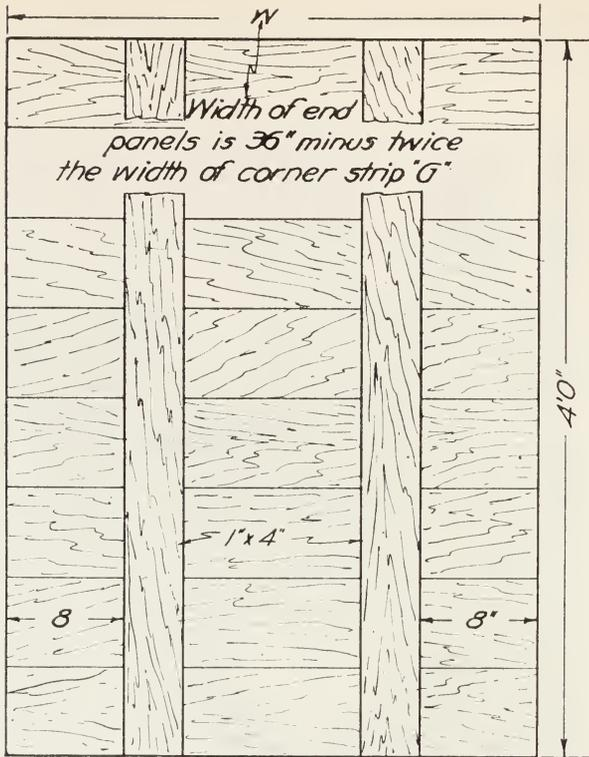

Fig. 10.—End panel. Four 6d nails, one at each corner, hold the end panels to the 2×3 inch studding B, figure 5.
*End Panels.*—The end panels, which are constructed as shown in figure 10, are held to the 2 × 3 inch studding (*B*, fig. 5) which fits against the studding *A* and the end of the side-wall sheathing. Two 8d common nails (*C*, fig. 5) at each corner hold the studding *B* in proper position. Four 6d nails are sufficient to hold the end panel to the studding *B*.